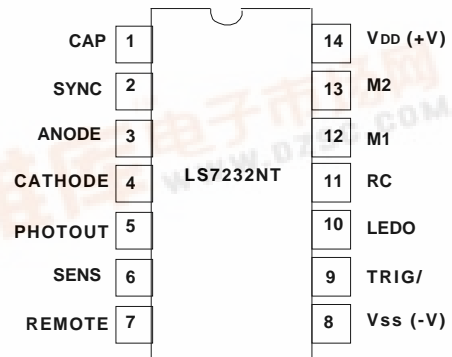

FIGURE 1
- LS7232NT (DIP), LS7232NT-S (SOIC) - See Figure 1